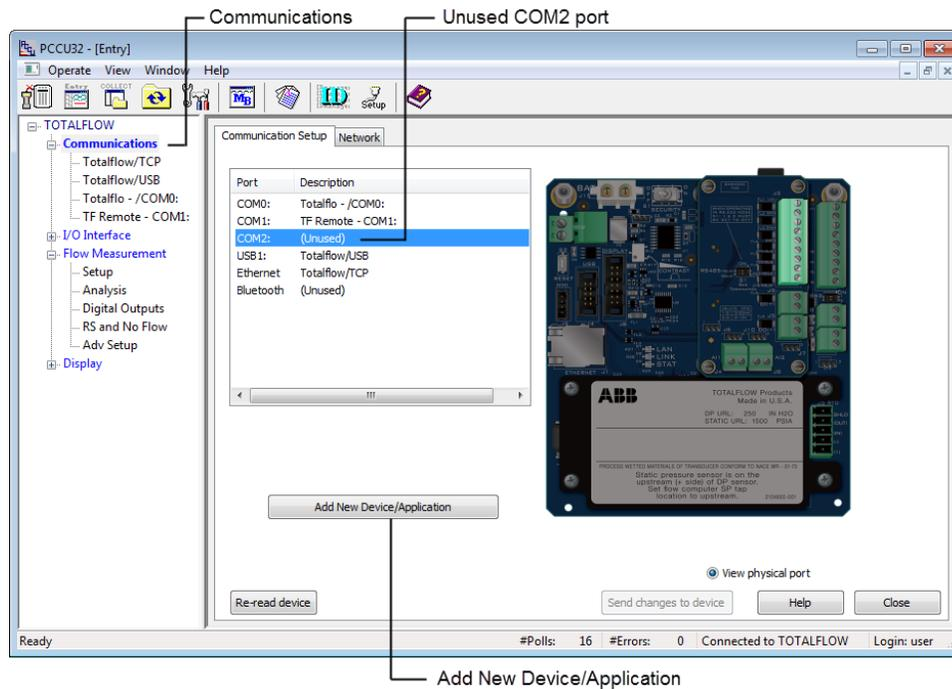

Figure 37: Add the I/O expansion communication port
1. Click **Communications** on the navigation tree (Figure 37).